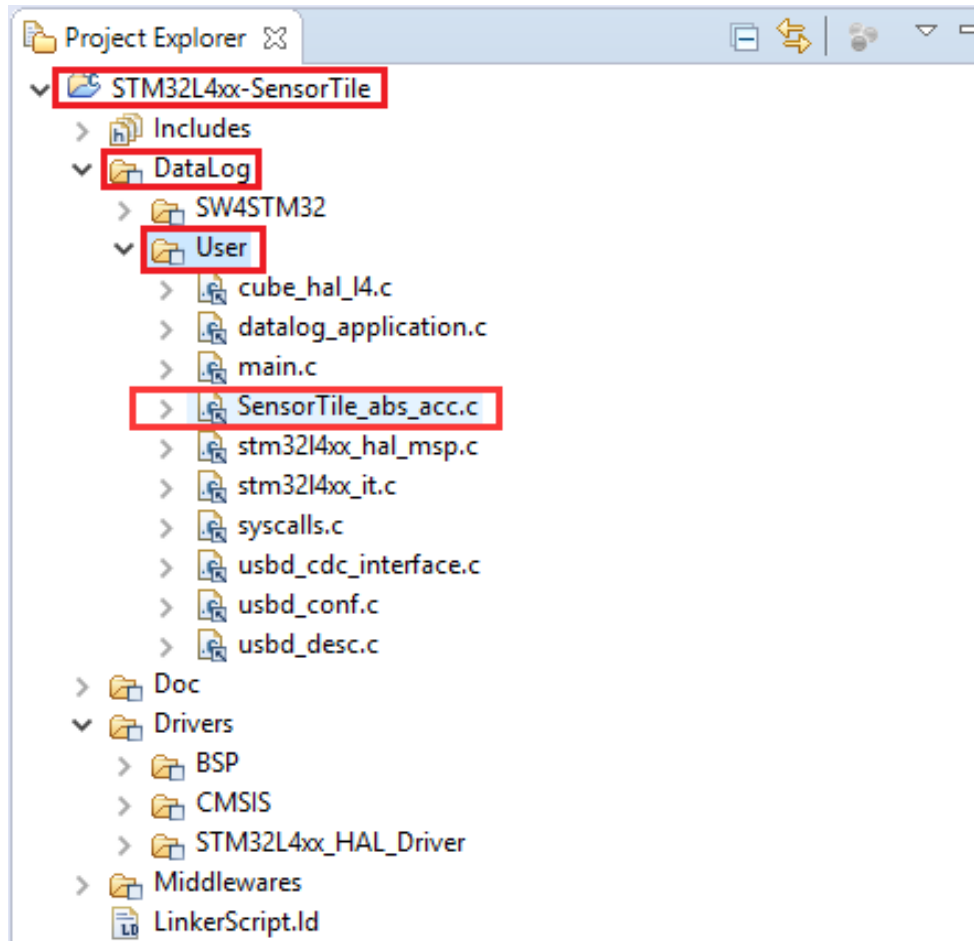

Figure 7: Imported SensorTile_abs_acc.c.
9. Make sure the file is imported successfully into the correct folder, as shown in Figure 7.